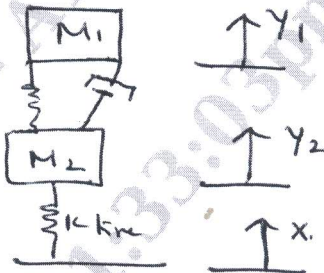

Fig.Q3
- 3 Compute the block diagram representation for the following mechanical circuit [Fig.Q3].